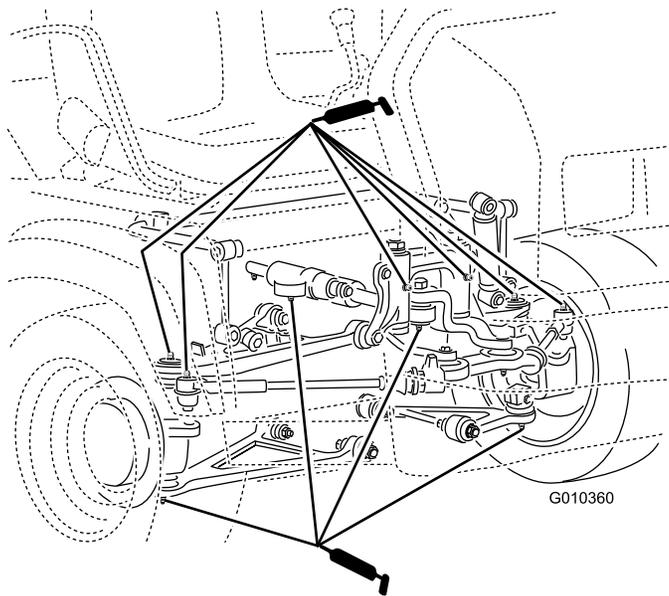

Figure 31
- Ball joints (4), tie rods (2), pivot mounts (2) and steering cylinder (2) (Figure 31)